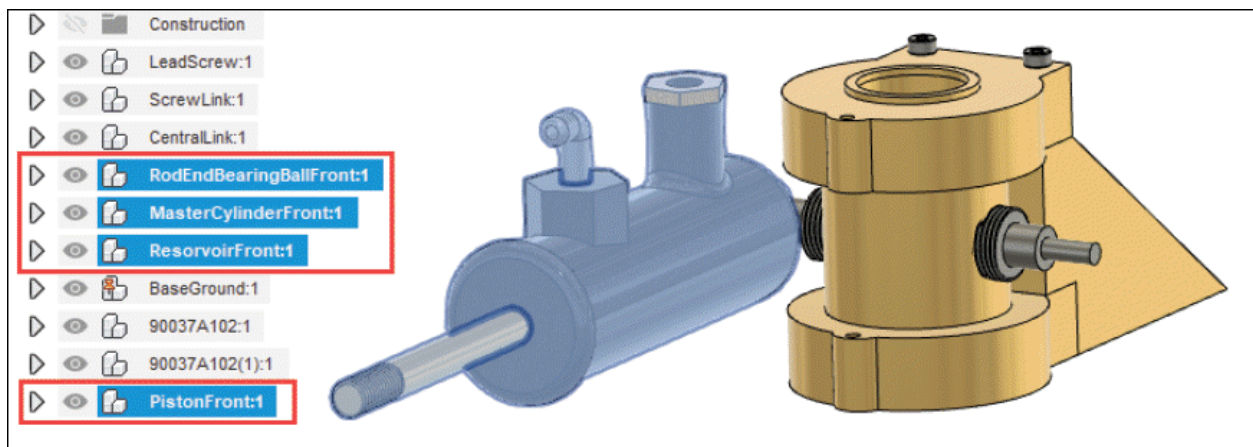

Figure-96. Selecting the components to copy
- Select the components to be copied while holding the **CTRL** key from **BROWSER** as shown in Figure-96. Right-click on any of the selected components, a shortcut menu will be displayed. Select **Copy** option from the shortcut menu.